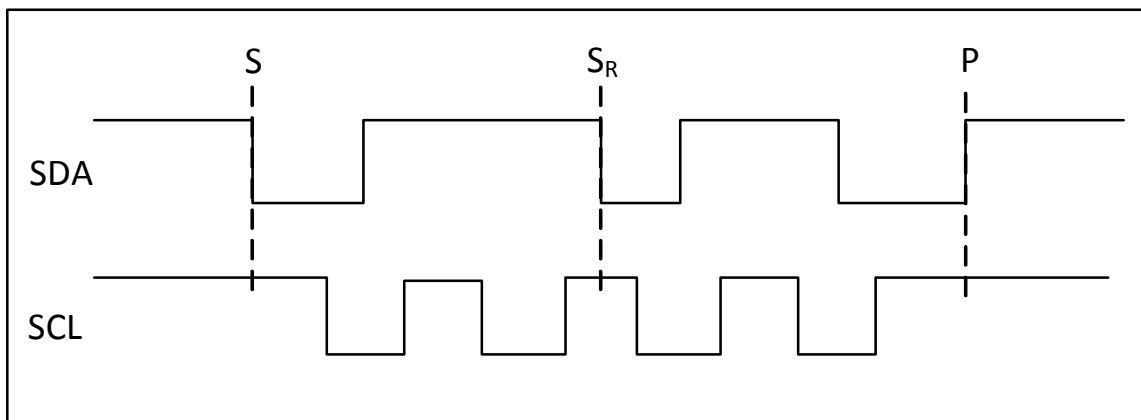
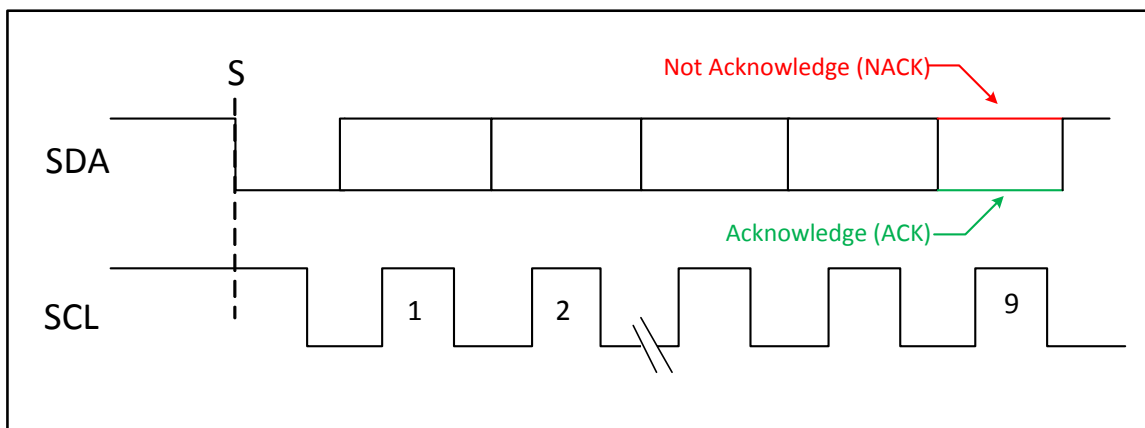

Figure 9. Start and Stop Conditions
Figure 10. Acknowledge Cycle
The I²C/SMBus serial port is a two-wire serial bus where data line SDA is bidirectional and clock line SCL is unidirectional. Reads and writes to this interface by the master are byte-oriented, with the I²C/SMBus master controlling the serial data rates up to 240 kbps. The SDA and SCL lines must be pulled high through pull-up resistors of 5 kΩ or less. An Si8901 ADC read transaction begins with a START condition (“S” or Repeated START condition “SR”), which is defined as a high-to-low transition on SDA while SCL is high (Figure 9). The master terminates a transmission with a STOP condition (P), defined as a low-to-high transition on SDA while SCL is high. The data on SDA must remain stable during the high period of the SCL clock pulse because such changes in either line will be interpreted as a control command (e.g., S, P, SR). SDA and SCL idle in the high state when the bus is not busy. Acknowledge bits (Figure 10) provide detection of successful data transfers, whereas unsuccessful transfers conclude with a not-acknowledge bit (NACK). Both the master and the Si8901 generate ACK and NACK bits. An ACK bit is generated when the receiving device pulls SDA low before the rising edge of the acknowledged related (ninth) SCL pulse and maintains it low during the high period of the clock pulse. A NACK bit is generated when the receiver allows SDA to be pulled high before the rising edge of the acknowledged related SCL pulse and maintains it high during the high period of the clock pulse. An unsuccessful data transfer occurs if a receiving device is busy or if a system fault has occurred. In the event of an unsuccessful data transfer, the bus master attempts communication at a later time. Figure 11A shows the I²C Slave Address Byte and CNFG_0 byte for the Si8901. Figure 11B and Figure 11C show master/Si8901 ADC read transactions for Demand Mode and Burst Mode, respectively.